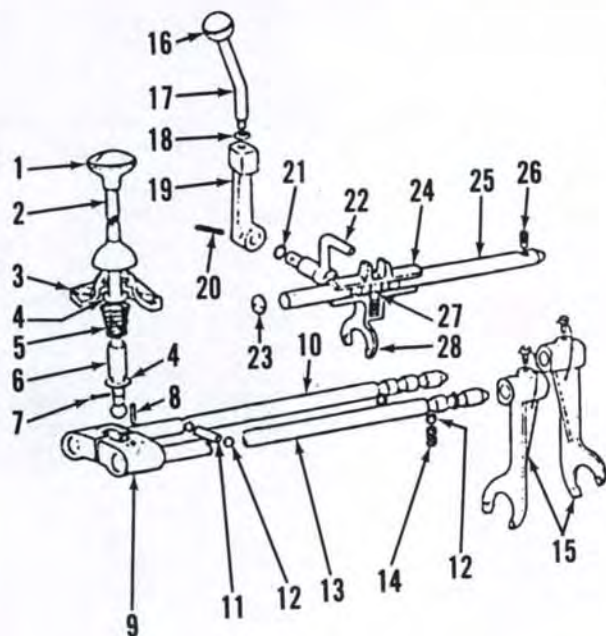

Fig. 99—Exploded view of shifters, rails and forks used on Model L210.
Shifter rails and forks (Fig. 99)
To disassemble range shift mechanism, loosen locking screw (26—Fig. 99) and bump rail forward out of fork and housing, dislodging expansion plug (23) in front housing wall as rail is removed. Try to capture detent ball (27) in range fork (28) as rail moves out of fork bore. Lever shaft and lever can be removed after driving out retaining spring pin.
Speed shift rails are equipped with an interlock mechanism (11) which locks one rail in neutral when other rail is moved. Interlock mechanism is installed between rails in a cross drilling which ends externally at plug (I—Fig. 101). To disassemble shift mechanism, unwire and loosen two set screws in shift forks (15—Fig. 99) until forks can be moved independently on rails. Make sure both rails are in neutral, then withdraw either rail, capturing both detent and in-
When assembling shift mechanism, install right rail and place in neutral detent position; then be sure interlock is correctly assembled with pin between the two balls as shown. Edge of ball should clear bore for remaining rail with little or no excess clearance. Install detent balls and springs by dropping into blind hole from top and depressing with a small pin punch while rail is started in bore. Use Figs. 99 and 100 as a guide when reassembling.